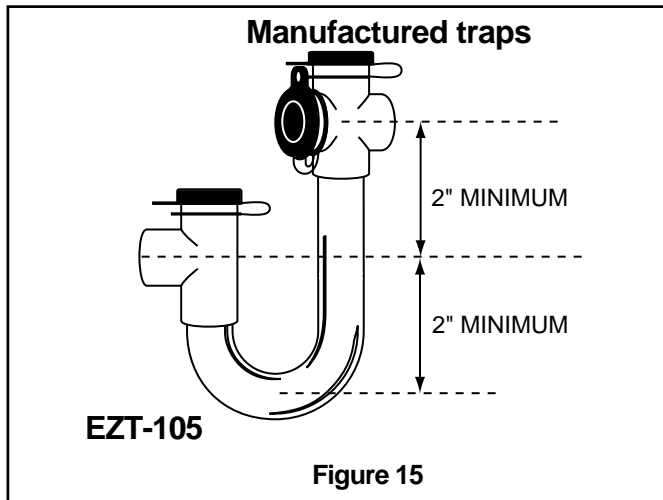

Figure 15
1. The primary drain line must be trapped with a minimum of 2" water seal as shown in Figures 15 & 16. **Do not use preformed 3/4" PVC running traps.**
The use of Field fabricated or manufactured traps as shown in Figures 15 & 16 is acceptable.
The manufactured trap shown in Figure 15 allows for a float switch option to be added. Refer to the manufacturers data and instructions for details.
- It is recommended that a clean-out tee or cross be installed in the primary drain line for future maintenance (See Figure 15 & 16).